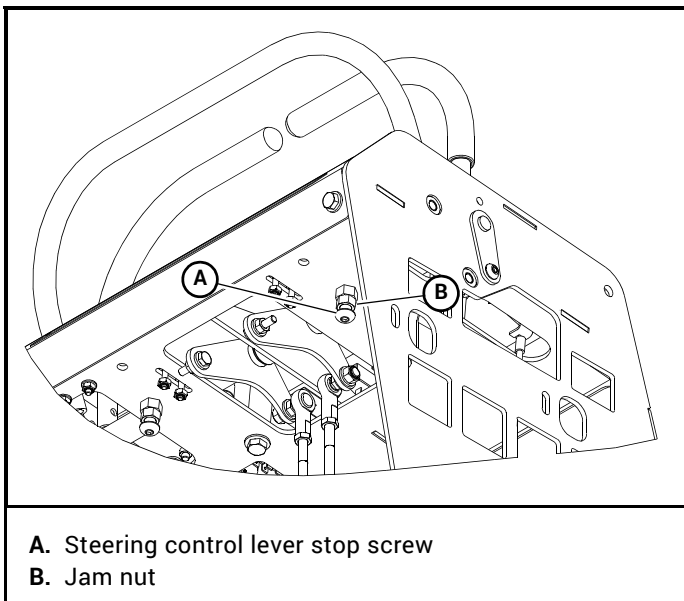

Figure 4-6
4. Loosen the jam nut on the steering control lever stop screw. Figure 4-6
5. Turn the steering control lever stop screw until it makes contact with the steering handle stop. Then, turn it an additional 1/4 turn. Tighten the jam nut. Figure 4-6